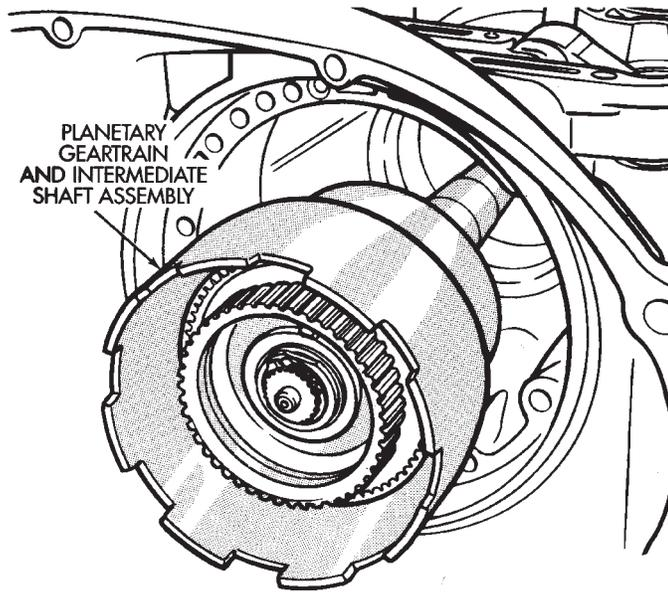

Fig. 138 Installing Planetary Geartrain
(9) Install planetary geartrain assembly (Fig. 138).